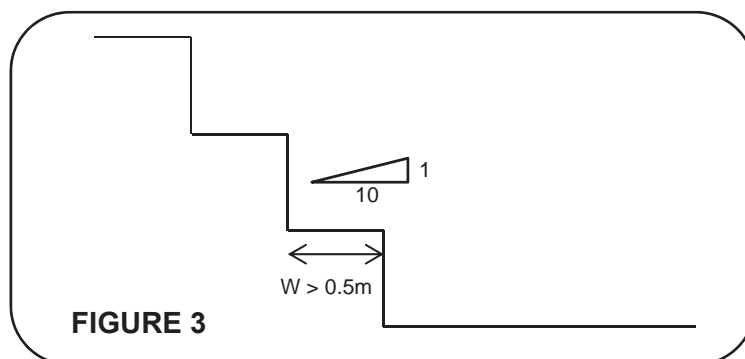

FIGURE 3
- Sloping ground, etc. should be benched to "key in" fill material and optimise compaction. The benches should slope back at 1V:10H and be at least 0.5m wide. Wider benches to accommodate the width of the roller may need to be adopted in some situations. Figure 3 refers.